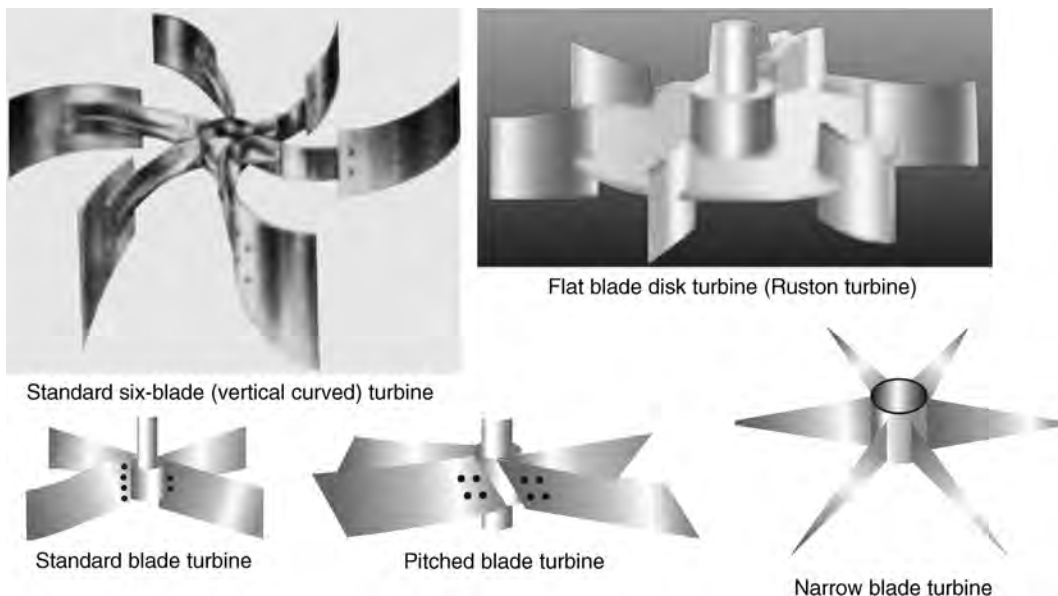

FIGURE 6.7 Different types of turbine impellers.
- Figure 6.7 illustrates some turbine impellers.